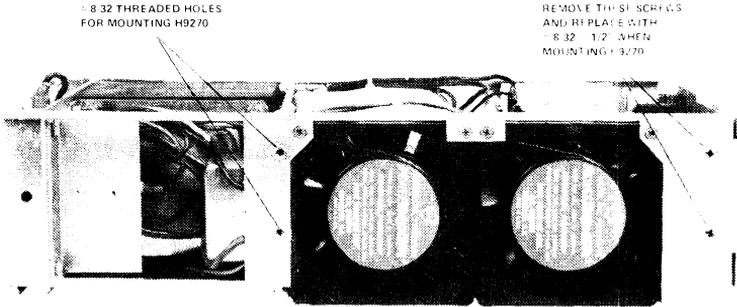
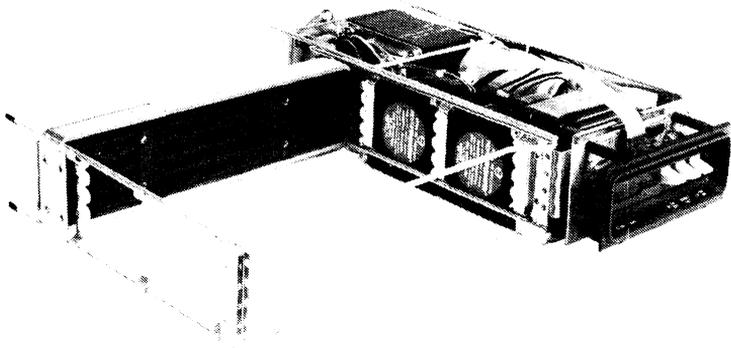

Figure 4-49 Left Side of H780 Showing H9270 Mounting Holes
Figure 4-50 H780 Mounted to H9270 Backplane
**Mounting an H780 to an H9270 Backplane** – The H780 power supply is designed to be mounted to the LSI-11 H9270 backplane. Four holes on the left side of the H780 are equipped with No. 8-32 threaded bosses (Figure 4-49). These holes mate with four holes in the right side of the H9270 backplane frame. Four No. 8-32 X 1/2 inch screws are inserted through the H9270 backplane holes and are threaded into the H780 power supply. The H9270 backplane and the H780 power supply thus become one assembly (Figure 4-50). Figure 4-49 shows the location of the four mounting holes in the H780. The two screws securing the front-chassis partition must be removed. These screws are to be replaced with longer screws (1/2 in) when attaching the H780 to the H9270.
2. Using a DVM, measure the +5 V output at the system backplane terminal block (Figure 4-50).